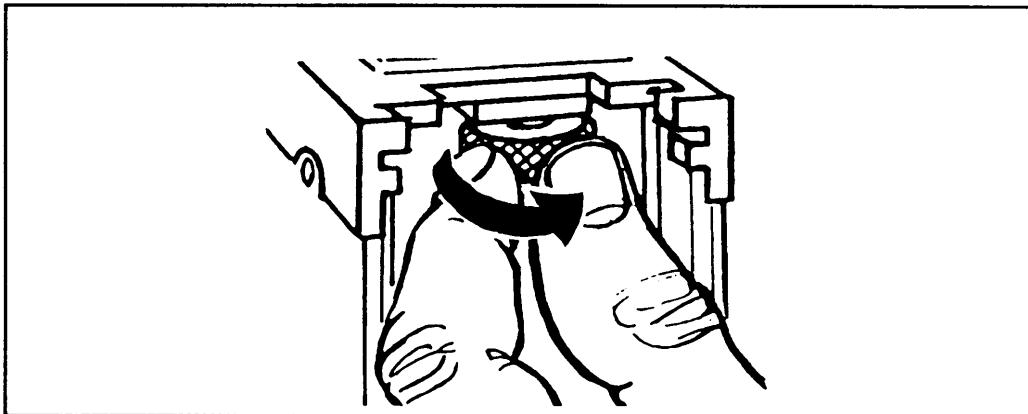

Figure 3-25. Adjusting the timing nut.
- (7) Remove the gauge, cock the gun, and return the bolt forward
(8) Insert the fire gauge.
(9) Remove the backplate.
(10) Screw the timing adjustment nut all the way down until it touches the trigger lever (Figure 3-25).